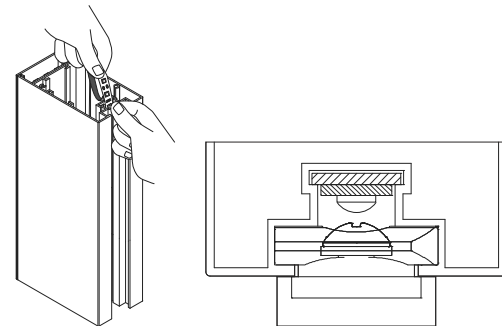

Figure 6a
- a. Backlit LED will not be interrupted by the Quick Lock™ or provided hardware. Using different hardware with the Quick Lock may damage the LED strip. (Figure 6a)